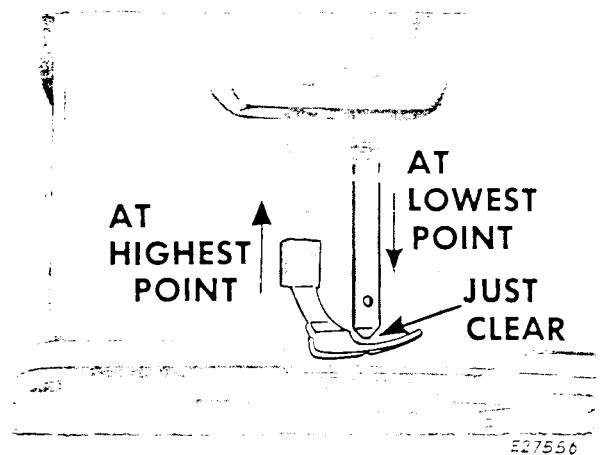

Fig. 33. Setting Presser Bar at Correct Height
2. When presser foot is at its highest point and needle bar is at its lowest, top of presser foot should clear lower end of needle bar, as shown in **Fig. 33**.